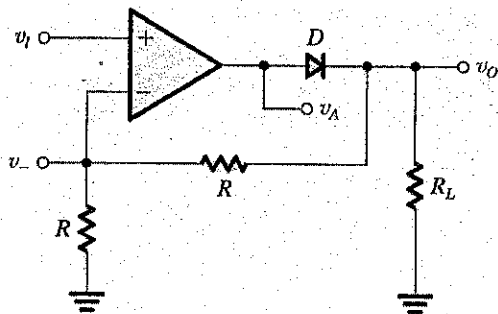

Figure P4.85
4.85 The op amp in the precision rectifier circuit of Fig. P4.85 is ideal with output saturation levels of ± 13 V. Assume that when conducting the diode exhibits a constant voltage drop of 0.7 V. Find v_- , v_o , and v_A for: